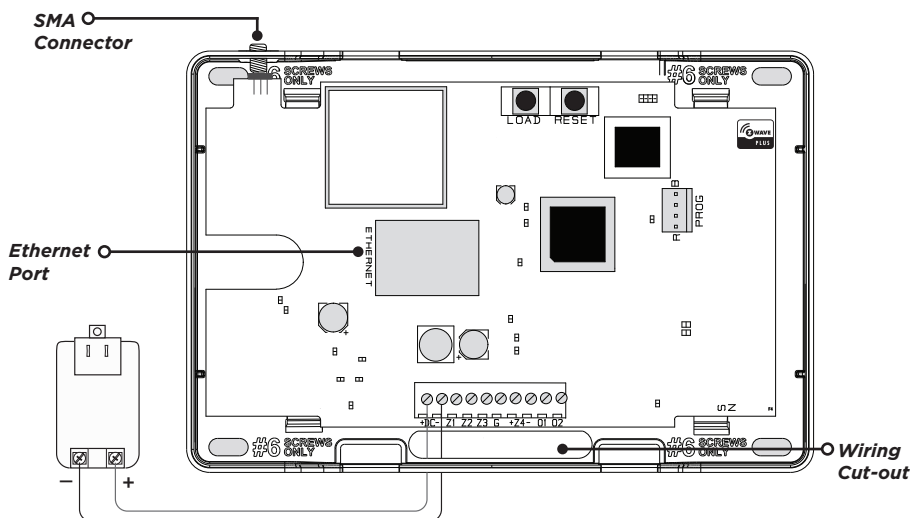

Figure 2: Housing Features
2. Connect the panel **+ DC** terminal to the positive terminal on the power supply and connect the **- DC** terminal to the negative terminal on the power supply. Be sure to route all wires through the wire cut-out shown in Figure 2.